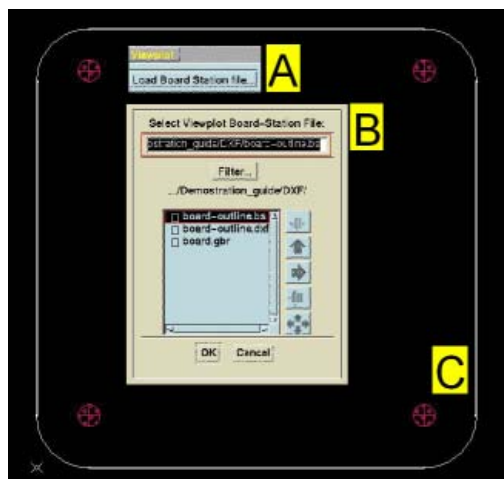

Figure 26: Export to Mentor BS Ample-file process steps
7. Now you can load the “Ample-file” in Librarian by use of **Load Board Station File** from the Viewplot menu. (*See Figure 26*)
This is done based on the “Alias file” Xref. Select from the Viewplot menu “**Viewplot gerber 2 PDF**” (See Figure 26).